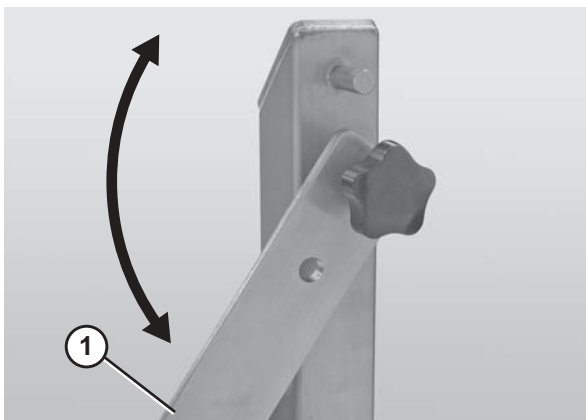

Figure 46
2. Lower the quick release arm (Figure 46, item 1) on one of the stands. *Note: if the conveyor is not equipped with Quick Release (QR Type) stands, it will be necessary to remove the entire stand.* For detailed instructions, refer to the “Sanitary Support Stands Installation, Maintenance and Parts Manual.”